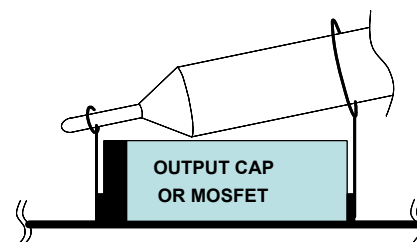

FIGURE 3. OSCILLOSCOPE PROBE SET-UP
6. Use oscilloscope to observe output ripple voltage and phase node ringing. For accurate measurement, please refer to Figure 3 for proper probe set-up.